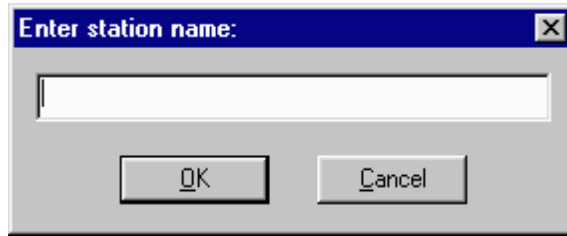

Figure 14 Naming a Test Station
7. Enter a name for this test station. After you have named the test station, click **OK**. See Figure 14.